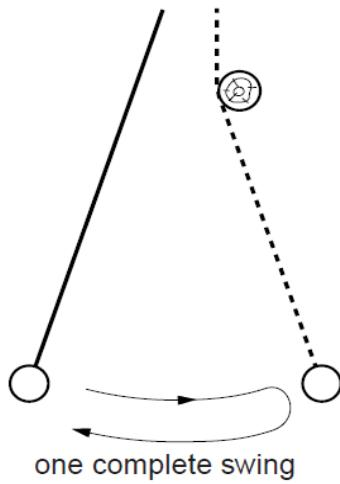

Fig. 1.4
- (ii) Release the bob and watch its movement. The bob will move to the right and then to the left again completing a swing, as shown in Fig. 1.4. Let the pendulum swing to and fro, counting the number of swings.